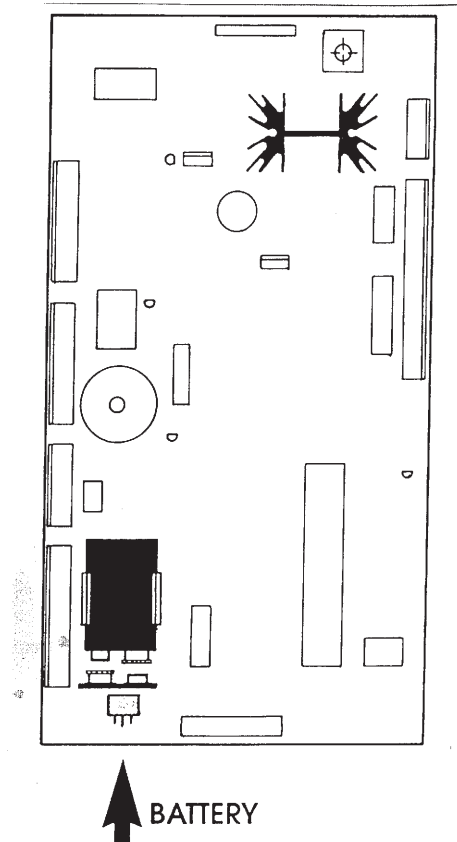

Figure 12
2. Place the battery in the provided clip on the control board with the battery connections aligned to the mating connectors on the circuit board. See Figure 12.